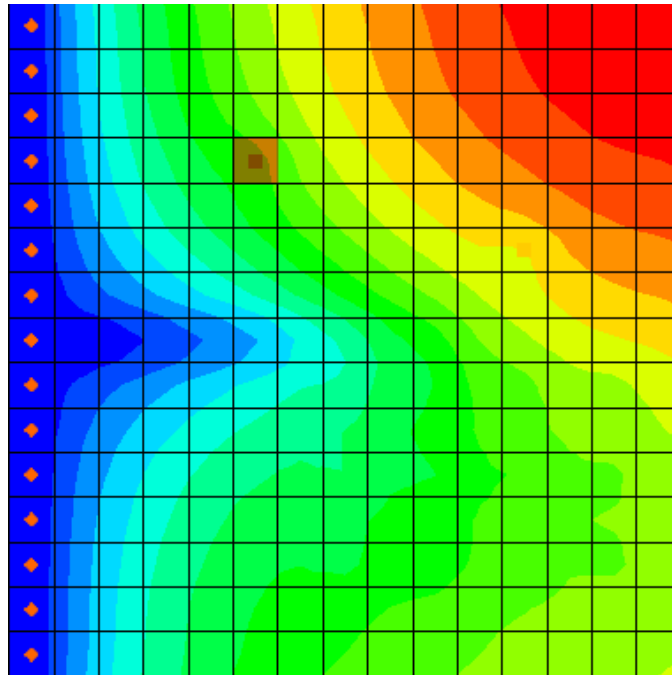

Figure 6 The well cell to select
- Using the **Select Cells**  tool, right-click on the well cell in the upper left (*IJK* coordinates of “4, 6, 2”, Figure 6) and select **Sources/Sinks...** to bring up the *MODFLOW Sources/Sinks* dialog.